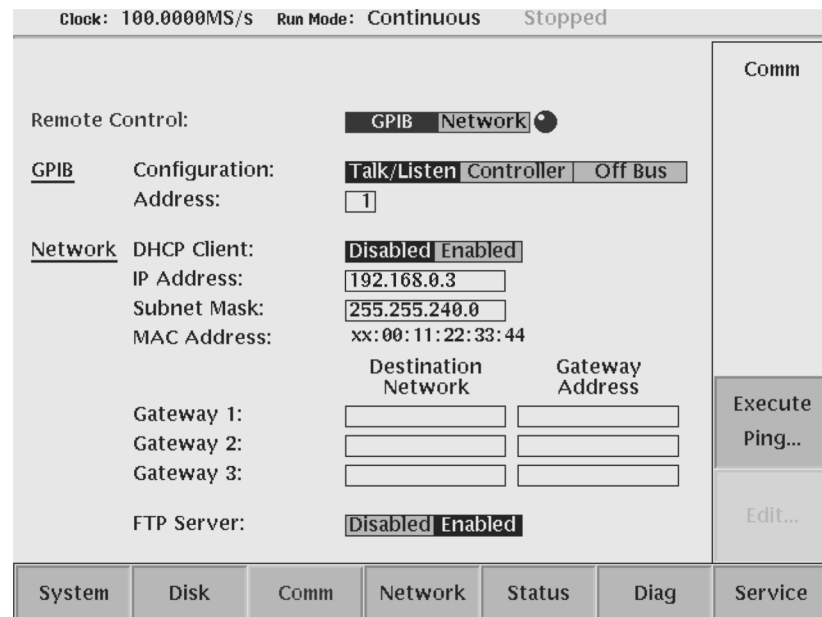

Figure 1-8: Selecting the GPIB configuration and address
4. Move the cursor to the **GPIB Configuration** field using the up/down (↑/↓) arrow buttons, then select **Talk/Listen** using either the general purpose knob or the left/right (←/→) arrow buttons. See Figure 1-8 on page 1-7.